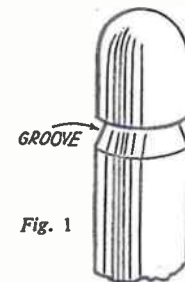
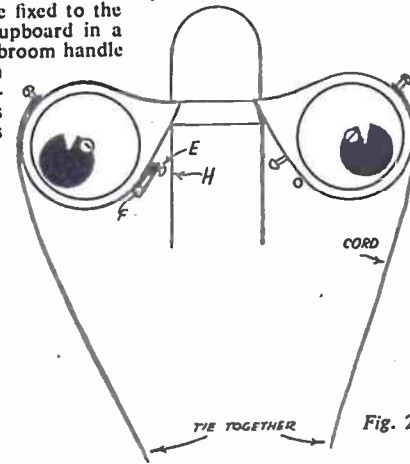
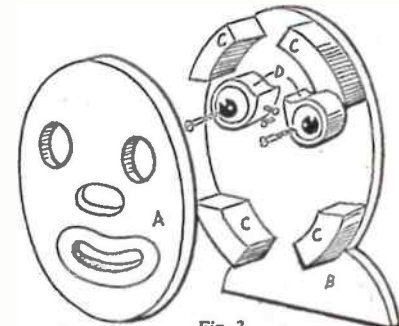

Fig. 1
Fig. 2
Fig. 3
The handle is grooved as shown in Fig. 1 and it is held in position as shown in Fig. 2. A general view is shown in Fig. 3.
To assemble the holder glue the spacing pieces to the back (B). Next secure the eyes in place, making sure that they will swivel easily. Keep the eyes in position by means of a small elastic band over the pin (E) in the eye and the pin (F) in the back. This is shown clearly in Fig. 2. The broom is removed by pulling on the cord attached to the eyes.